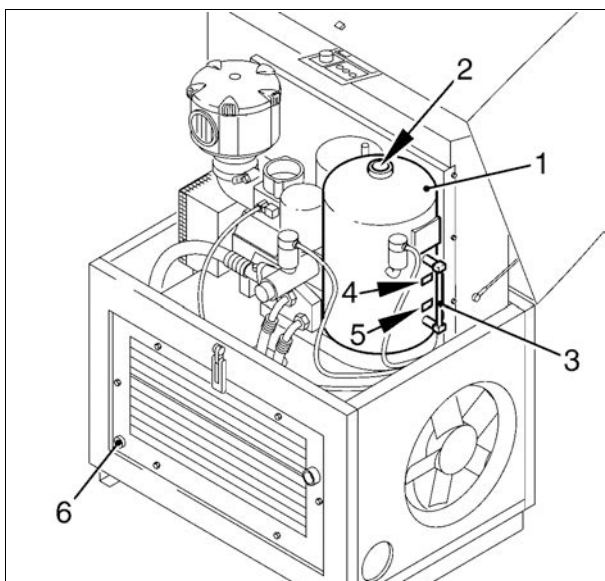

Fig. 17
- Slowly open the oil filler cap (- 2 - Fig. 17), to depressurize the screw compressor by releasing any residual pressure in the unit
- Open the oil drain (- 6 - Fig. 17) for the pressure reservoir and the oil cooler
- Fill in oil up to the marking "maximum oil level" (- 4 - Fig. 17) (L07-L11 approx. 5 litres, L15-L22 approx. 6 litres)
- The oil level must be between the maximum level (- 4 - Fig. 17) and minimum level (- 5 - Fig. 17) marked on the oil reservoir.